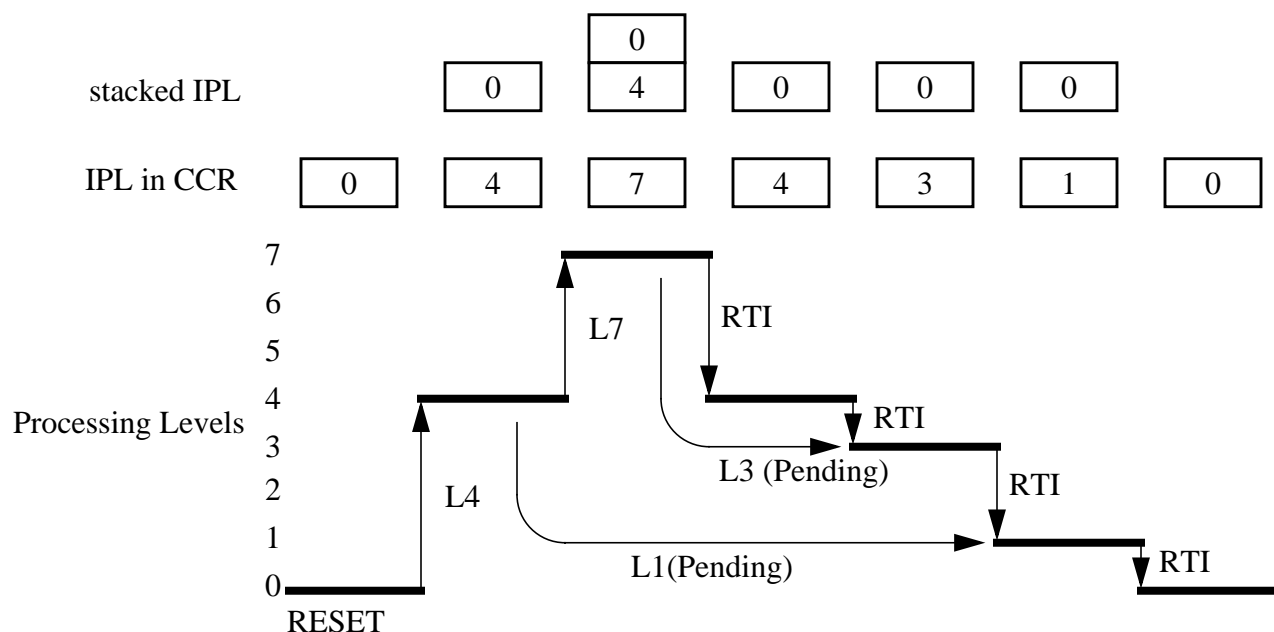

Figure 5-1 Interrupt Processing example
- I bit maskable interrupt requests can be interrupted by an interrupt request with a higher priority, so that there can be up to 7 nested I bit maskable interrupt requests at a time (refer to **Figure 5-1 Interrupt Processing example** for an example using up to 3 nested interrupt requests).